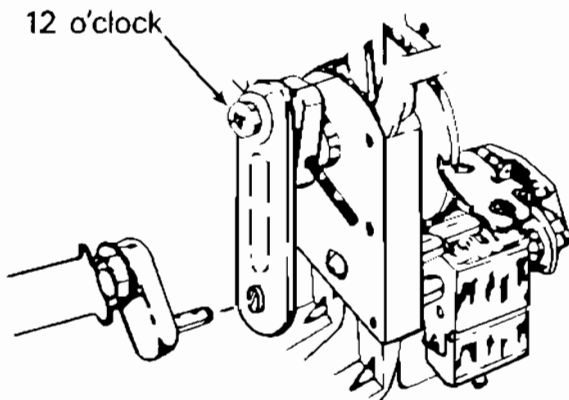
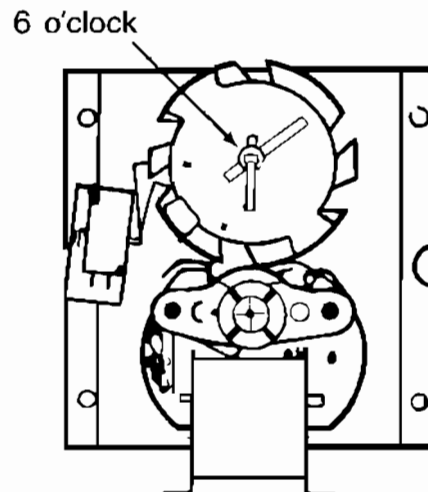

Fig. 10
Fig. 11
1. Make sure the hole through the rear shaft is in a horizontal plane. (If a pin were inserted in the hole, the pin would be horizontal). See Fig. 10.
2. Slide the Drive Arm (with linkage attached) onto the rear shaft as shown. See Fig. 10.
6. Install the vending cam onto the front shaft of the motor making sure that the lock tab is at 6 o'clock as shown. See Fig. 11.
**NOTE: When the screw holding the linkage arm to the drive arm is at a 12 o'clock position (See Fig. 10), the lock tab will be at the 6 o'clock position (See Fig. 11).**